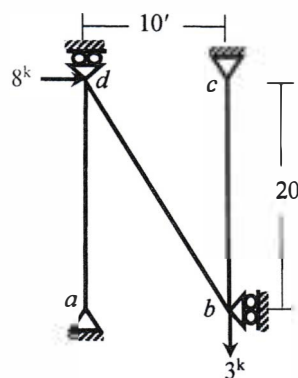

Fig.3
- Identify zero-force members of the truss *abcd* loaded as shown in **Fig.3**. Determine the displacements of joints *b* and *d*. Also calculate member forces